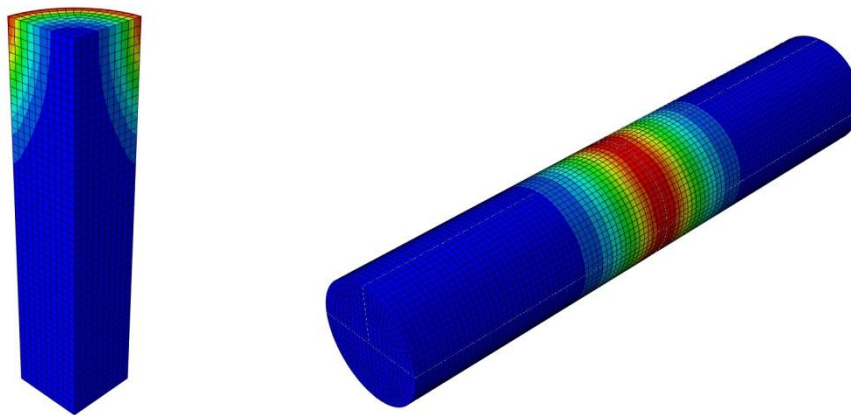

Figure W1–8 Contour plots of Joule heat
- The plot appears as shown in Figure W1–8.
We see from Figure W1–8 (left) that inside region of the rod receives less Joule heat compared to the outer surface. From Figure W1–8 (right), we see that larger Joule heat is generated at the center of the rod compared to its ends. Both of these observations can be explained by the proximity of these regions to the current coil.